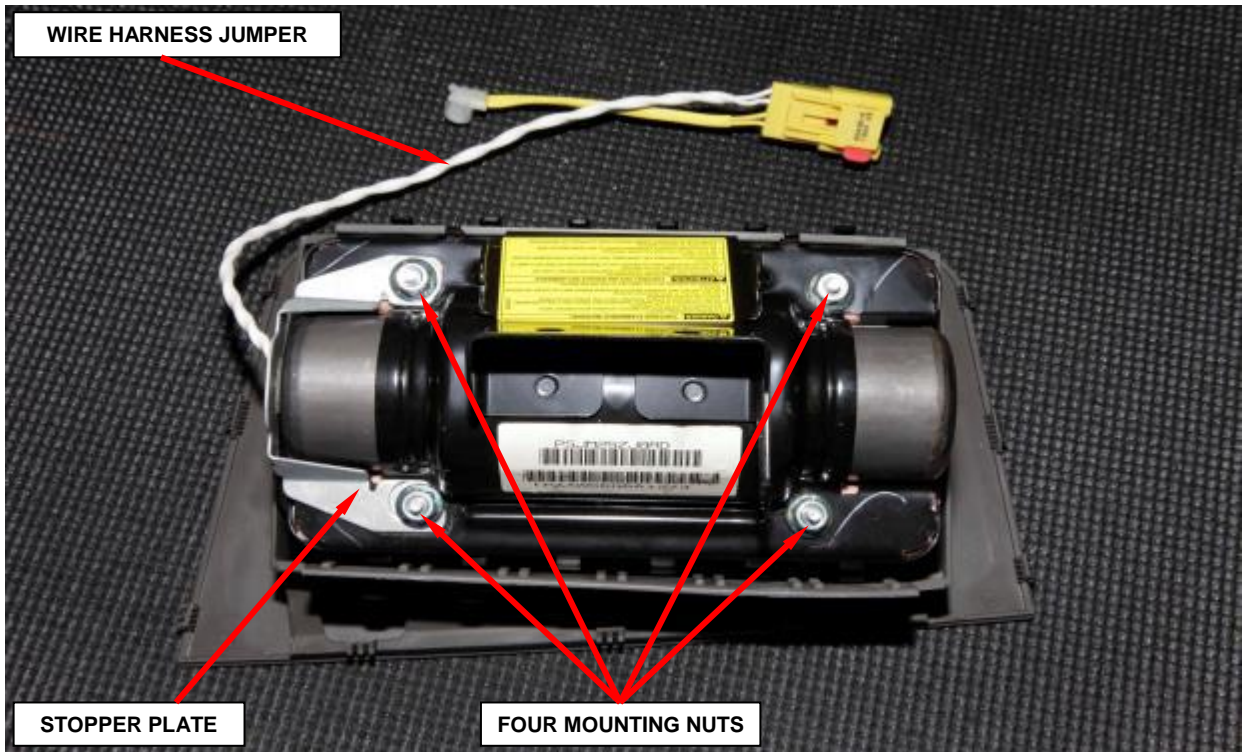

Figure 47 – Mounting Nuts and Stopper Plate
e. Remove and **discard** the four mounting nuts and remove and save the stopper plate from the housing (Figure 47)
- h. Install the stopper plate to the passenger airbag module (Figure 47).
- i. Install the four new mounting nuts to the passenger airbag module and tighten to 53 in. lbs. (6 N·m) (Figure 47).